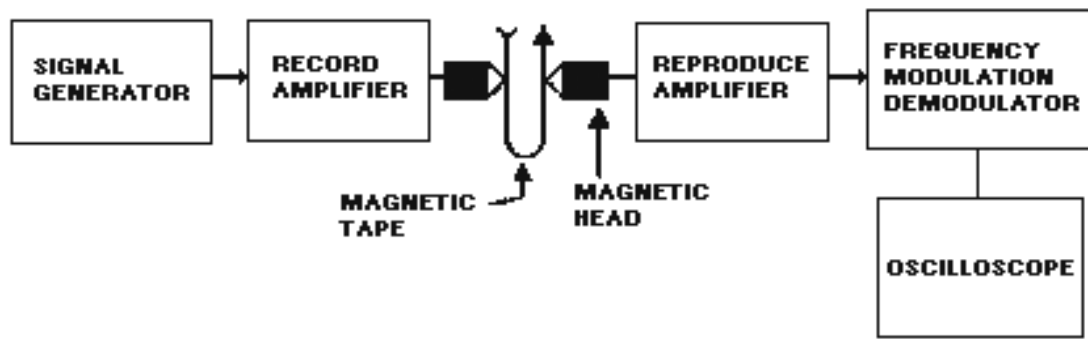

Figure 6-8.— Test equipment setup for measuring flutter.
There are many ways to measure flutter. Most are based on the fact that tape speed variations cause frequency modulation of a recorded tone. Figure 6-8 shows a typical setup for measuring the peak-to-peak value of flutter with a frequency-modulation (FM) demodulator and an oscilloscope. The technical manual for the magnetic tape recorder you're testing will tell you how to set up the signal generator to output the test signal. After setting up the test equipment, follow these procedures: